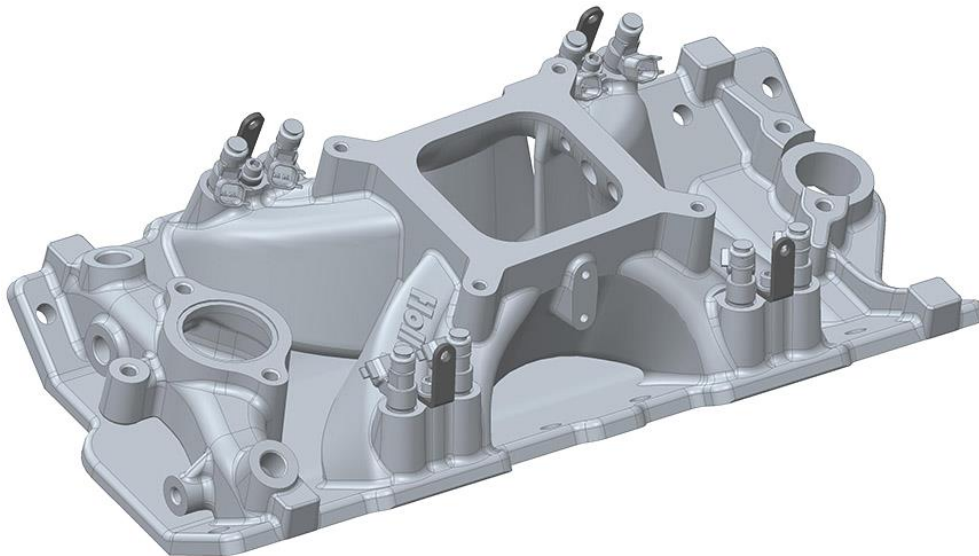

Figure 3
7. Apply thread locking compound to the 4-1/4-28 x .75 screws. Use these screws and 4-1/4" washers to attach the fuel rail brackets to the manifold. Orient the brackets (**Figure 3**) for attaching the fuel rail. Torque each screw to 75 in-lbs., then torque again to 90 in-lbs.